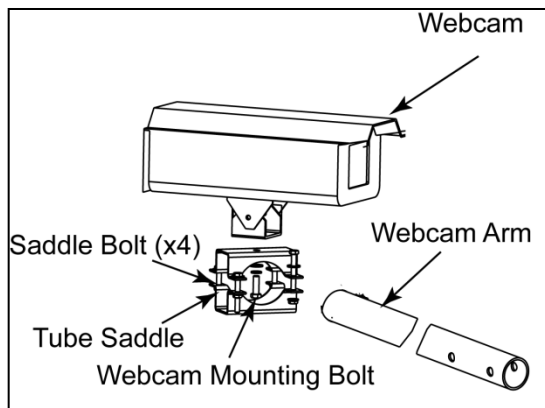

Figure 23: Webcam on End of Arm
2. Insert the webcam mounting bolt through the hole in the middle of the top tube saddle. Refer to **Figure 23**.
4. Secure the webcam to the tube saddle by installing and tightening a nut on the webcam mounting bolt. Refer to **Figure 23**.